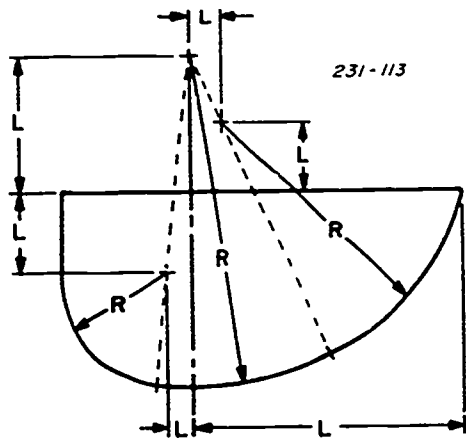

Figure 4-83. Dimensioning compound circular curves.
**Curves.** Dimension a compound curve composed of circular arcs by giving the radii of these arcs and the location of their centers, as shown in figure 4-83. An important